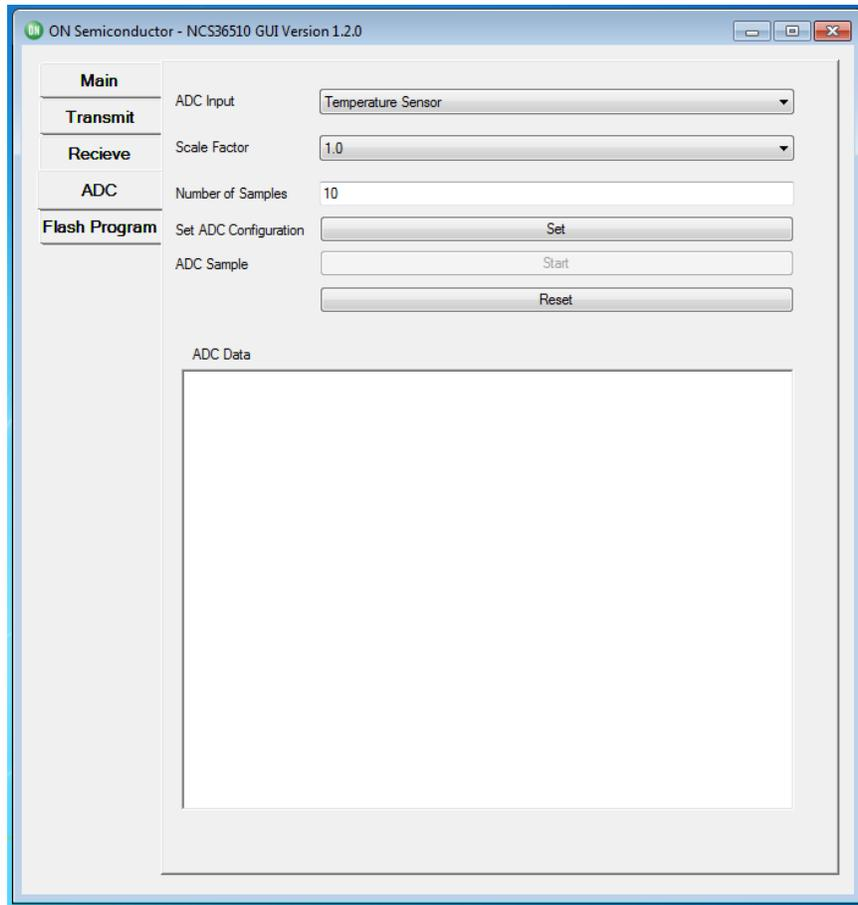

Figure 14. GUI-ADC-Interface
3. Select the “ADC” tab as shown in Figure 2, the “ADC” page will look as shown in Figure 14.